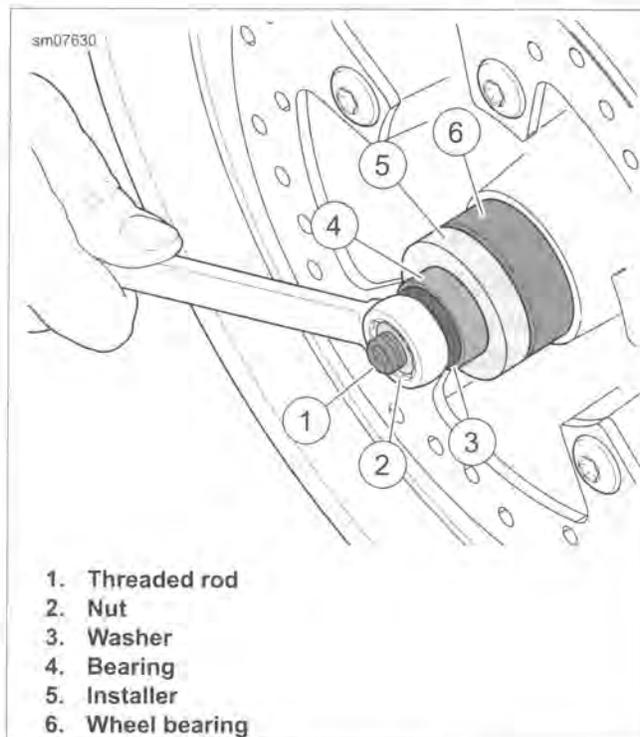

Figure 2-36. Installing Bearing
3. See Figure 2-36. Place the bearing on the rod.
- a. Standard bearing with the lettered side against installer (5).
- b. ABS bearing with red side inward and tan side against installer (5).
4. Place 1 inch installer (Part No. HD-44060-8) (5), bearing (4), flat washer (3) and nut (2) onto rod.
5. Turn nut (2) until bearing is fully seated.